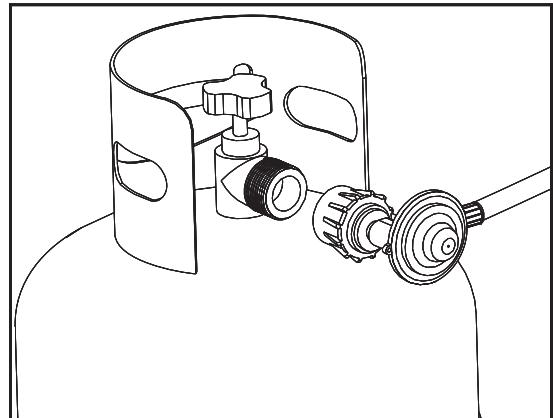

FIG. 1
- Insert the gas cylinder valve into the threaded opening of the regulator valve. Turn the cylinder clockwise until firm. Hand-tighten only. **Fig 1.**